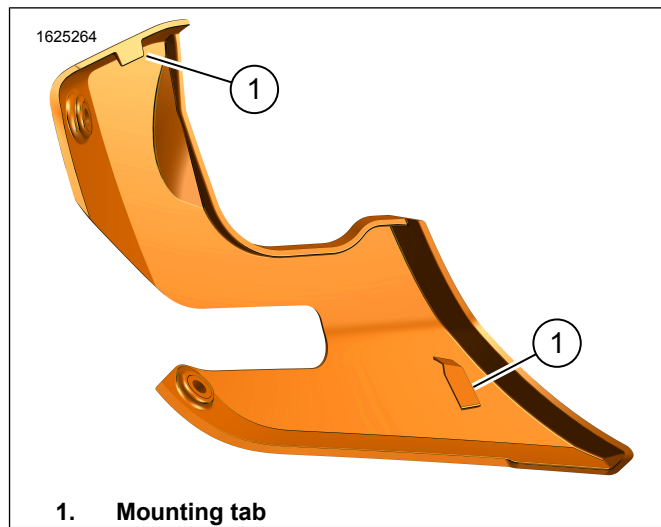

Figure 3. Mounting Tabs
- a. See Figure 3. Make sure mounting tabs are attached to center chin guard properly.